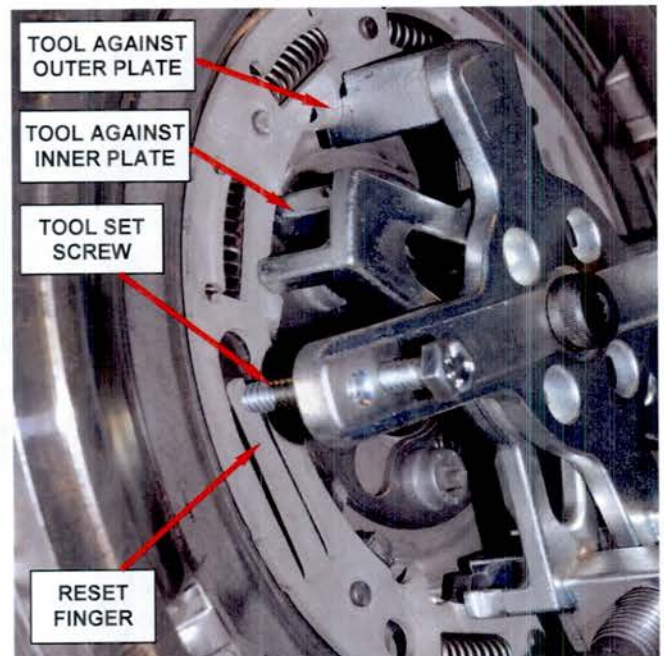

Figure 29 – Set Screw over Reset Finger
a. Install Special tool 10310 onto the dual mass flywheel as shown in Figure 29 and 30.